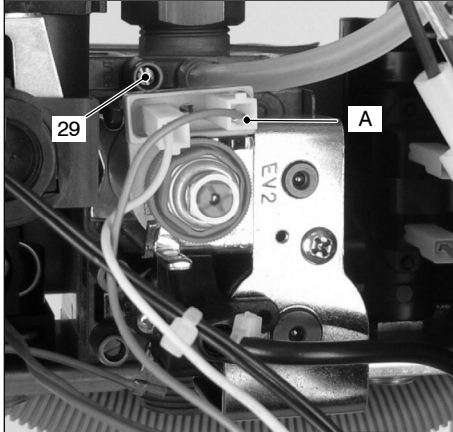

Fig. 7.4
- 2 Loosen the internal screw 29 (Fig. 7.4) on the Outlet Pressure Test Point of the Gas Valve and connect a pressure gauge using a suitable hose.
- 8 Disconnect the gas modulator coil by removing the electrical connector A (Fig. 7.4).
- 2 Open the gas valve outlet pressure test point 29 (Fig. 7.4) and connect the gauge.